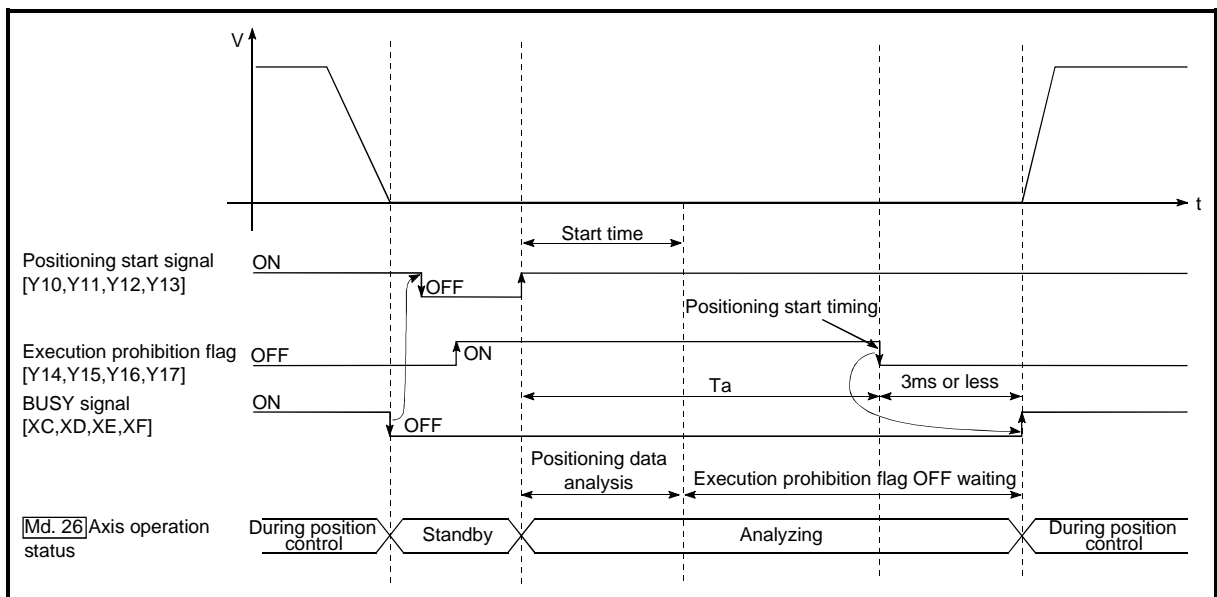

Fig. 12.46 Operations of pre-reading start function
The pre-reading start function is performed by turning ON the positioning start signal [Y10, Y11, Y12, Y13] with the execution prohibition flag [Y14, Y15, Y16, Y17] ON, or by executing the dedicated instruction (PSTRT1, PSTRT2, PSTRT3, PSTRT4). However, if positioning is started with the execution prohibition flag ON, the positioning data is analyzed but servo start is not provided. While the execution prohibition flag is ON, "Md.26 Axis operation status" remains unchanged from "5: Analyzing". Pulse output starts within 3ms after the execution prohibition flag [Y14, Y15, Y16, Y17] has turned OFF, and "Md.26 Axis operation status" changes to the status (e.g. during position control, during speed control) that matches the control system. (Refer to Fig. 12.46)
Hence, pre-reading of the next data starts during the stop time T_w . If T_w is a certain period of time, the analysis of the next data is completed during that period, and the system is placed in an execution prohibition flag OFF waiting status. Therefore, replacing the positioning start timing at ② with the execution prohibition flag OFF allows the time from when the axis operation request turns ON until pulse output starts to be reduced to within 3ms in the PLC program. (Refer to Fig. 12.46)